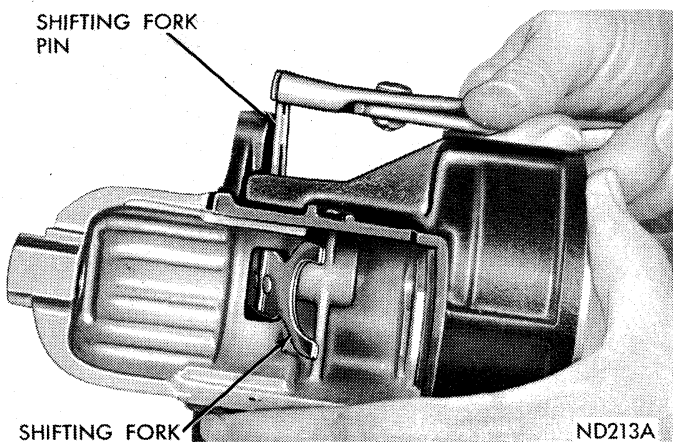

Fig. 24—Removing Shifter Fork Pin
(21) Remove shifting fork retainer pin (Fig. 24) and remove clutch shifting fork assembly.